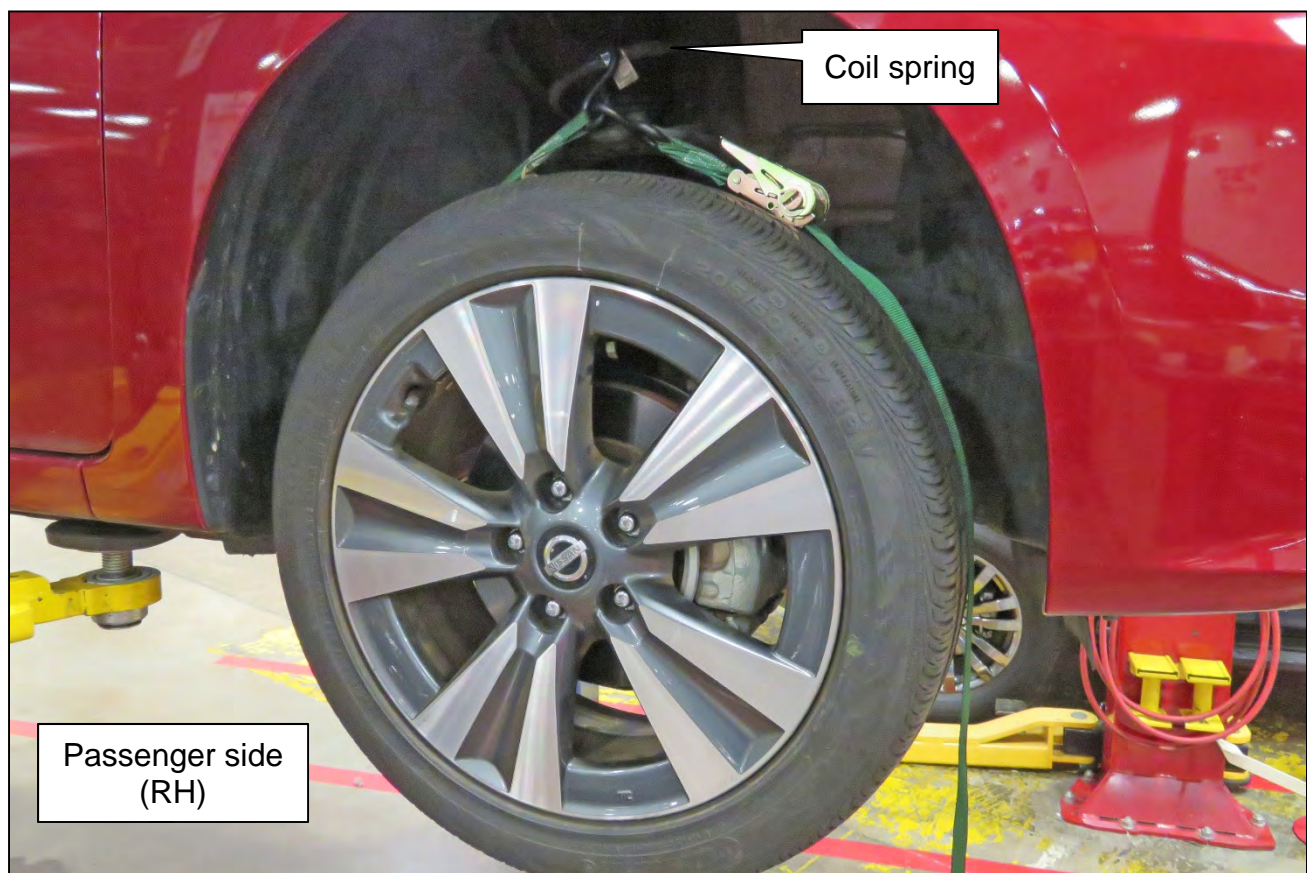

Figure 25
18. Secure the passenger side (RH) front wheel with a suitable strap.
- a. Connect the first hook of the strap to the coil spring as shown in Figure 25.
- c. Tighten the strap sufficiently to keep the passenger side (RH) front tire from rotating but do not overtighten.